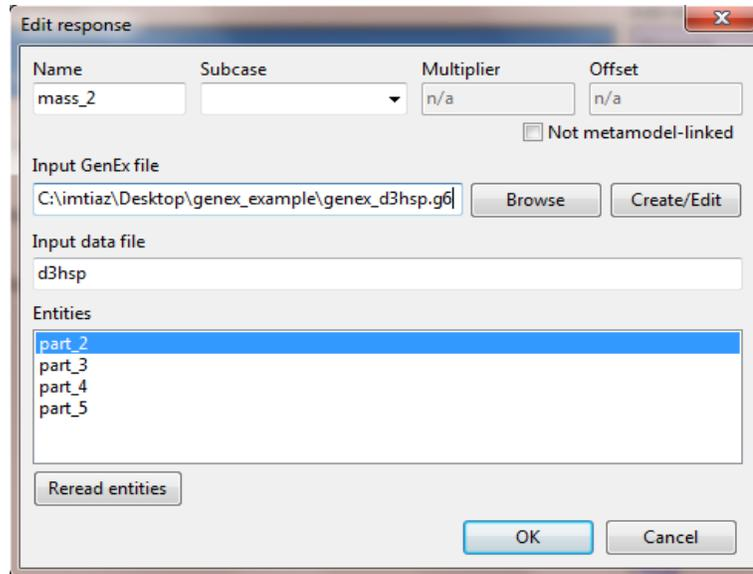

Figure 5: Defining GenEx response in LS-OPT
12. Once all entities are defined, save the process to create a *.g6* file (*sample_d3hsp.g6*). Now LS-OPT responses can be defined using this *.g6* and corresponding data file. In *New Response* dialog box, select this *.g6* file as GenEx input file. Once this file is selected, LS-OPT lists all the entities defined in the file. Select the entity (*part_2*) to defined it as an LS-OPT response with *d3hsp* being the input data file, as shown in figure 5. Repeat this process to define LS-OPT responses for all parts.